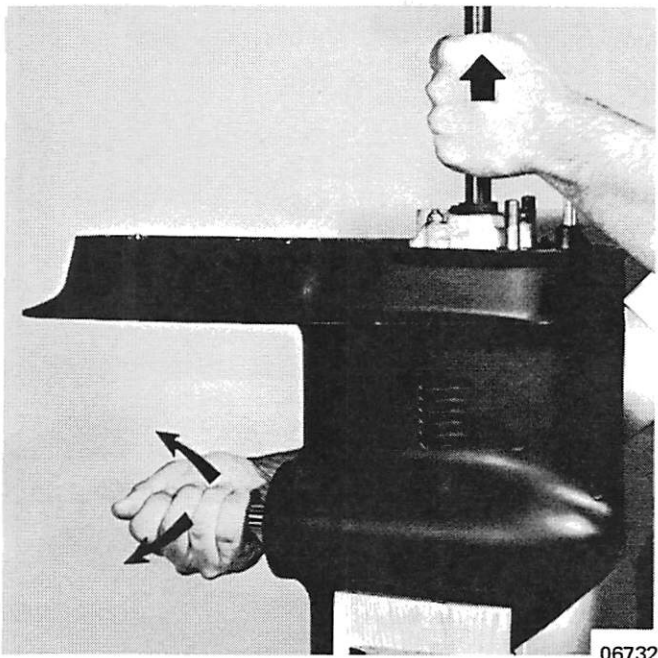

Figure 2. Checking Backlash
5. At this time, lash between gears should be checked for future reference. Pull on drive shaft with one hand and push on propeller shaft with other. (Figure 2) Refer to backlash.